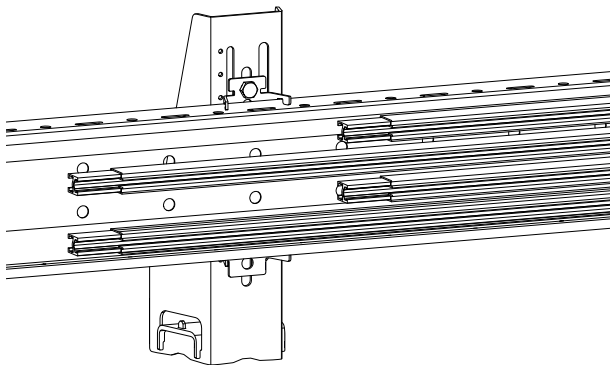
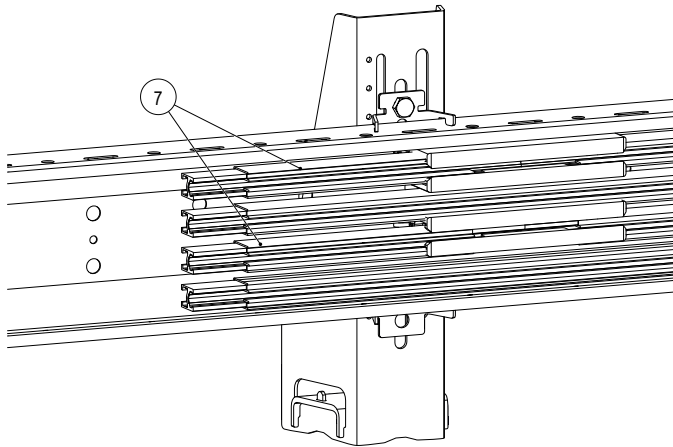

Fig. 33: Conductor rails are not at same height
Fig. 35: Conductor rails are at same height
6. Due to the offset arrangement of the line feeds in the terminal box or the connectors, the additional conductor rails on the track are not at the same level. In order to bring the conductor rails back to the same height, a short piece (250 mm) (7) with a connector is installed on each of the short ends of the conductor rails before the conductor rails can continue to be installed on the track (see Fig. 33 to Fig. 35).
7. Due to the offset arrangement of the line feeds in the and the connectors, the additional conductor rails on the track are not at the same level. In order to bring the conductor rails back to the same height, a short piece (250 mm) (7) with a connector is installed on each of the short ends of the conductor rails before the conductor rails can continue to be installed on the track (see Fig. 33 to Fig. 35).